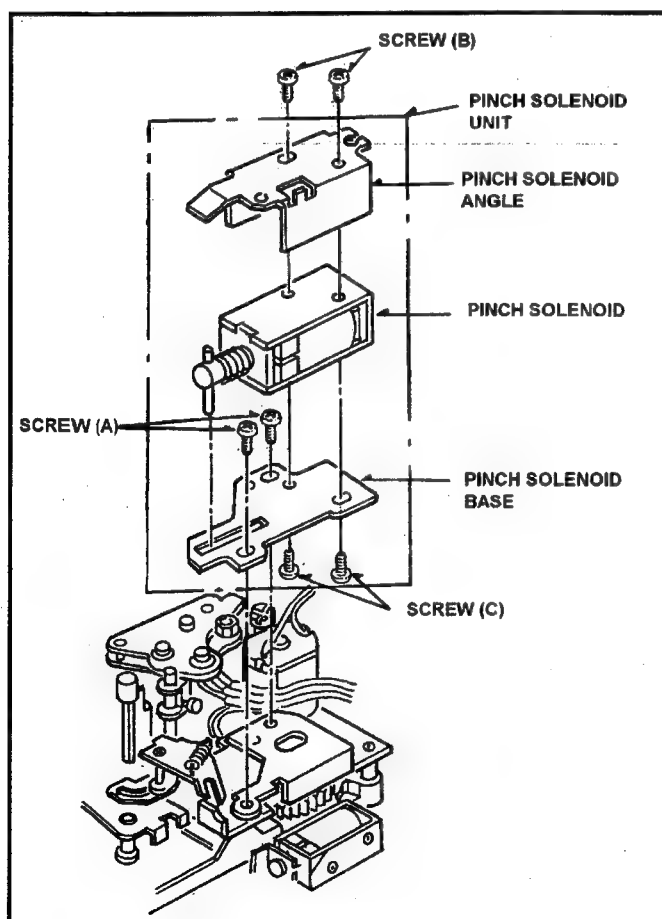

Fig. 6-9-1. Removal of Pinch Solenoid
5. Unscrew the 2 screws (A) and remove the Pinch Solenoid Unit as shown in Figure 6-9-1.
6. Unscrew the 2 screws (B) and remove the Pinch Solenoid Angle as shown in Figure 6-9-1.
7. Unscrew the 2 screws (C) and remove the Pinch Solenoid from the Pinch Solenoid Base.